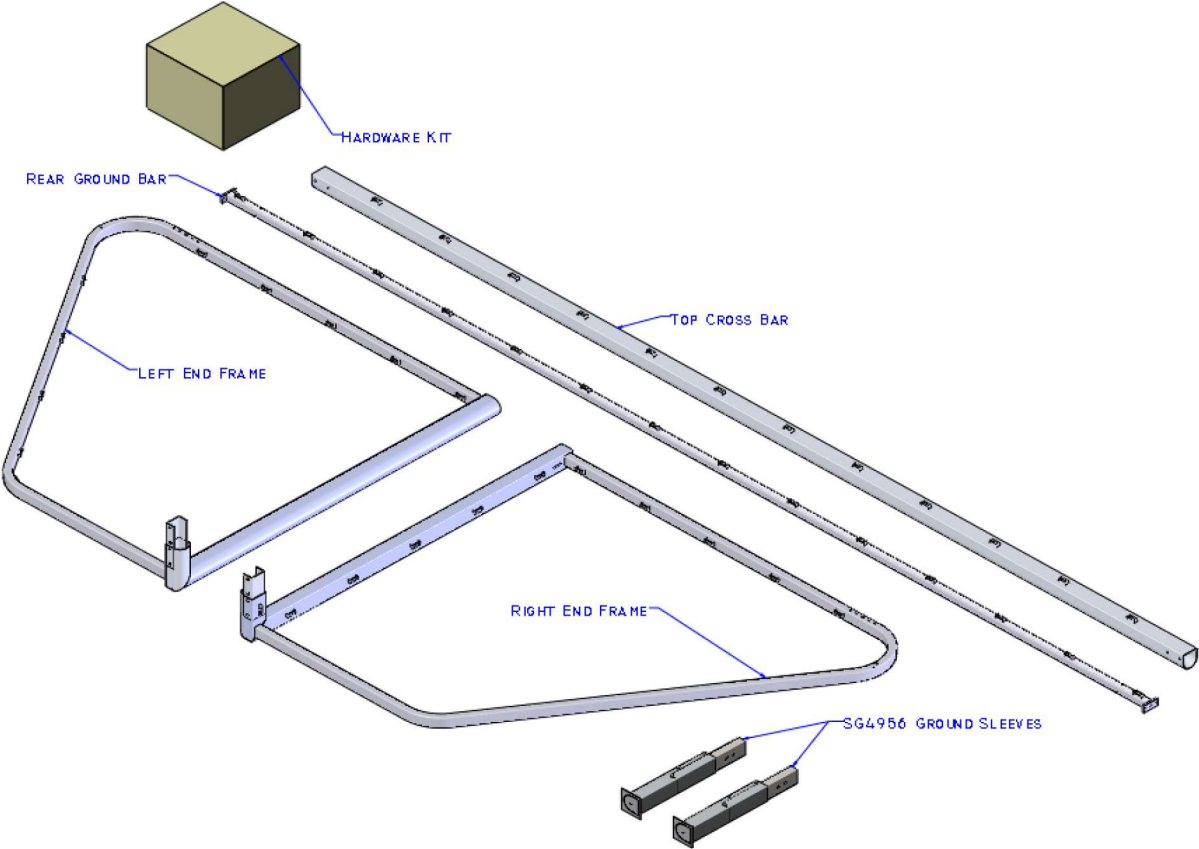

Figure 1
3. Begin by laying out all of the soccer goal components. Place the end frames far enough apart to fit the top crossbar between them with the net clips facing outwards. Place one channel at each connection. (Fig. 1).